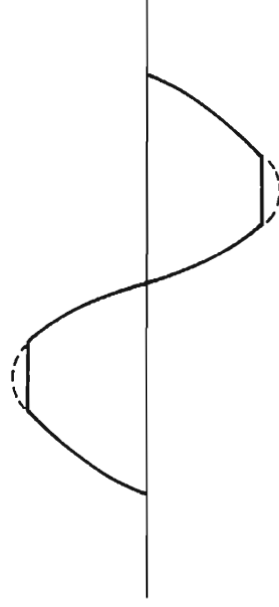

Fig. 2
- d) Gradually increase the output of the audio oscillator until the wave form on the oscilloscope (see Fig. 2) begins to be clipped. Adjust the left channel potentiometer VR-201 (100 K Ω) and the right channel VR-201 (100 K Ω) so that both upper and lower peaks of the wave forms begin to be clipped simultaneously at the same point of the curve.
- e) Gradually increase the output of audio oscillator, which is connected to AUX terminals, until the wave form on the Oscilloscope (see Fig. 2) begins to be clipped.